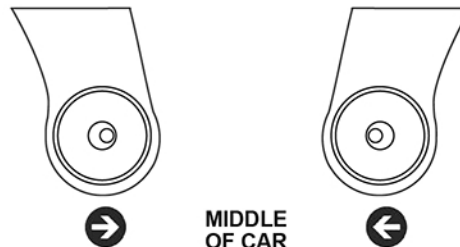

Figure 1
5. Apply some of the supplied grease to the bore of the polyurethane part and push the stainless steel sleeve into the bore so it sits flush inside the bush. For maximum caster adjustment, the offset holes in the sleeves must be closest to the middle of the car, as shown in figure 1.